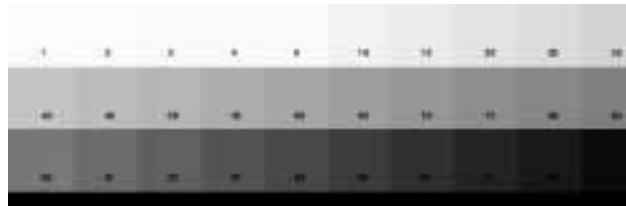

Figure 3.32 -- Available Shading Percentages
3. Choose a shading percentage: 0 percent is no shade, 100 is full black (the gradient in-between isn't linear -- Figure 3.32 shows the available shading percentages), then click on the **OK** button.